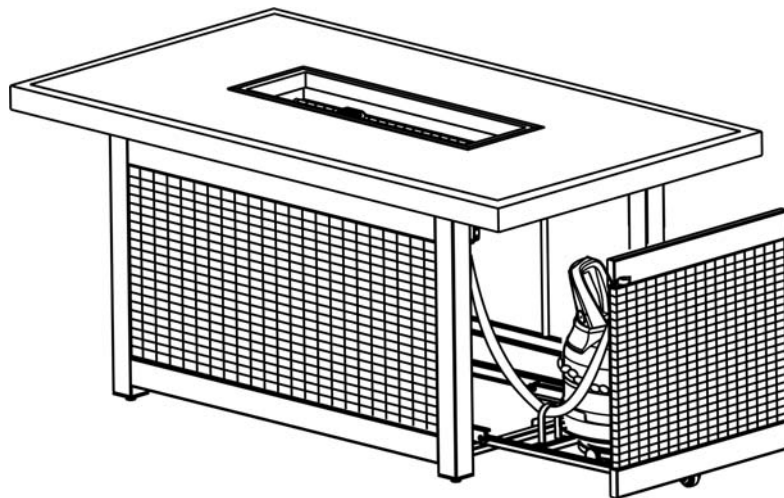

Figure 7a
7. Slide the tank drawer out, place the LP tank (not provided) in the drawer and secure it with the chain as shown in Figure 7a. With the BLACK lever in the “down/off” position as shown in Figure 7b, firmly push the regulator onto the tank valve. To open the valve, lift the BLACK lever and turn the handle 90° clockwise to the “ON” position. See Figure 7c. Apply a solution of soapy water to the tank-regulator connection and to the valve-hose connection to check for leaks. If soap bubbles continue to form, the connection has a leak. If a leak is found, close the tank valve and tighten all connections. **NEVER USE A FLAME TO CHECK FOR LEAKS.** In case of gas leakage; for instance, in the event of gas leakage, the appliance shall not be used or if alight, the gas supply shall be shut off and the appliance shall be investigated and rectified before it is used again. To remove the regulator, turn the Black Lever counterclockwise and press straight in. See Figure 7d.